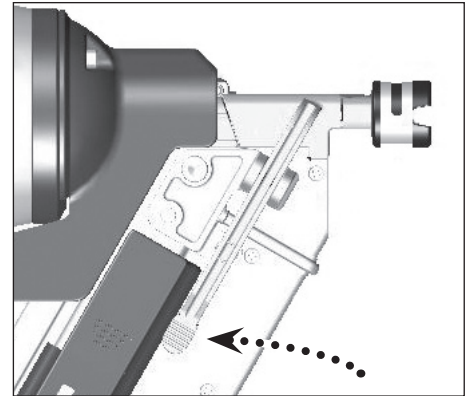

Figure 23 - Quick Clear Nose Lever
3. Press down on the Quick-Clear Nose (QCN) lever to disengage portion of nose barrel (See Figure 23).